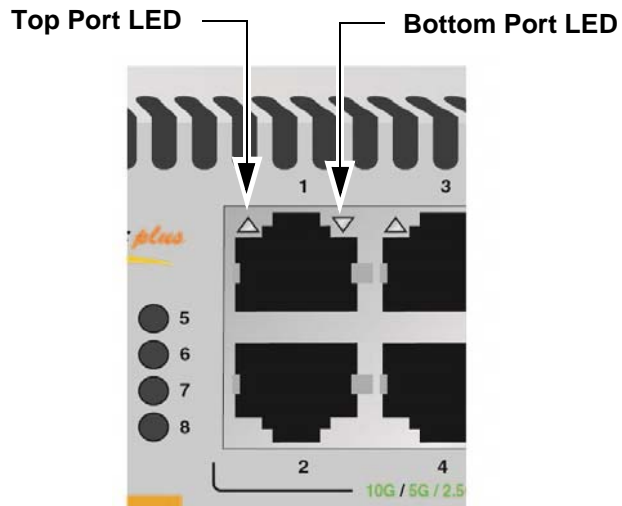

Figure 5. Link and Activity LEDs for the 1/2.5/5/10Gbps Ports on the AT-x550-18XSPQm, Switch
**LEDs** This section explains the LEDs for the 1/2.5/5/10Gbps twisted pair ports on the AT-x550-18XSPQm Switch. Each port has one LED that displays link and activity information. The LEDs are shown in Figure 5.